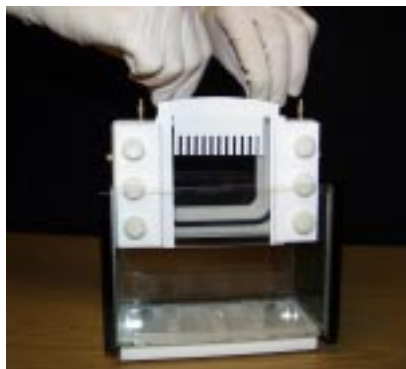

Fig 9
3. Carefully remove the comb ensuring not to damage the wells (fig 9).